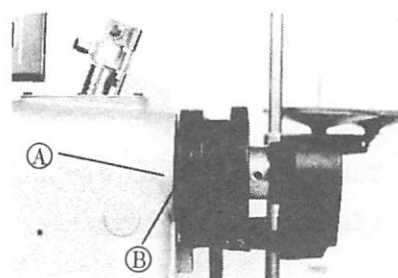

Fig. 5.1
To locate, align timing mark (A) on the machine arm with the first timing mark (B) on the pulley (Fig. 5.1).